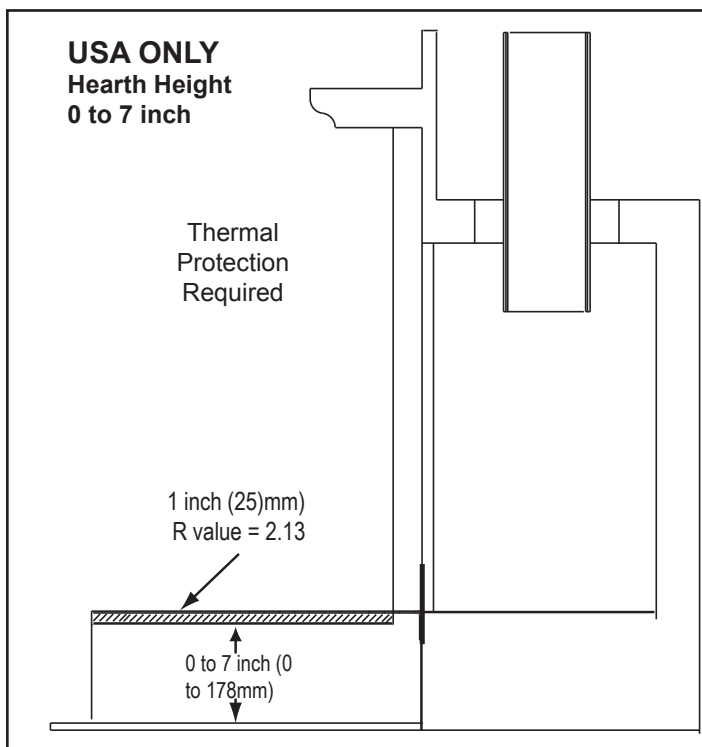

Figure 32.1 - Thermal Protection Required
Floor height 0" to 7" (0 to 178mm) below Insert Base	See Figure 32.1 and 32.2 1 inch (25) of k = 0.47, R = 2.13